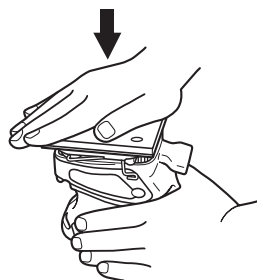

Fig. 4
- (3) Surely attach the quick stick sanding paper by strongly and evenly pressing with your palm. (Fig. 4)